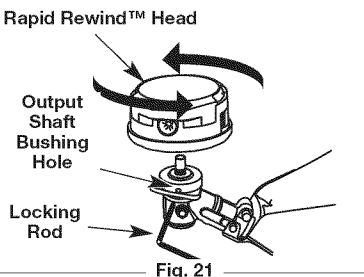

Fig. 21
- Align the output shaft bushing hole with the locking rod slot and insert the locking rod into the shaft bushing hole (Fig. 21).
- Screw the cutting head counterclockwise onto the output shaft. Tighten securely. (Fig. 21) Remove the locking rod.